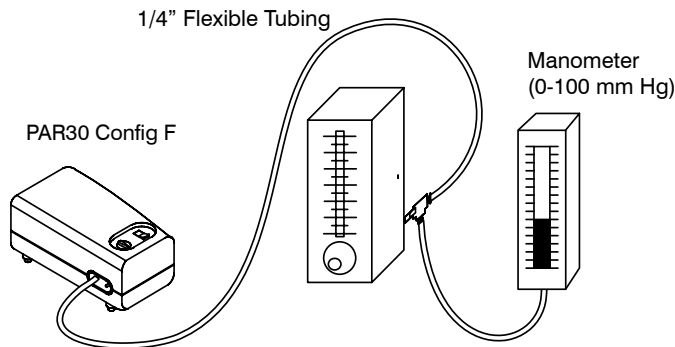

Figure 1—Pressure Test Set-up
2. **Flow Check:** Attach 1/4" ID tubing from the pump to a 'T' fitting on the flowmeter (see Figure 1). Adjust flowmeter adjustment knob until the manometer reads approximately 50 mm Hg, the flowmeter should read at least 3.2 lpm.